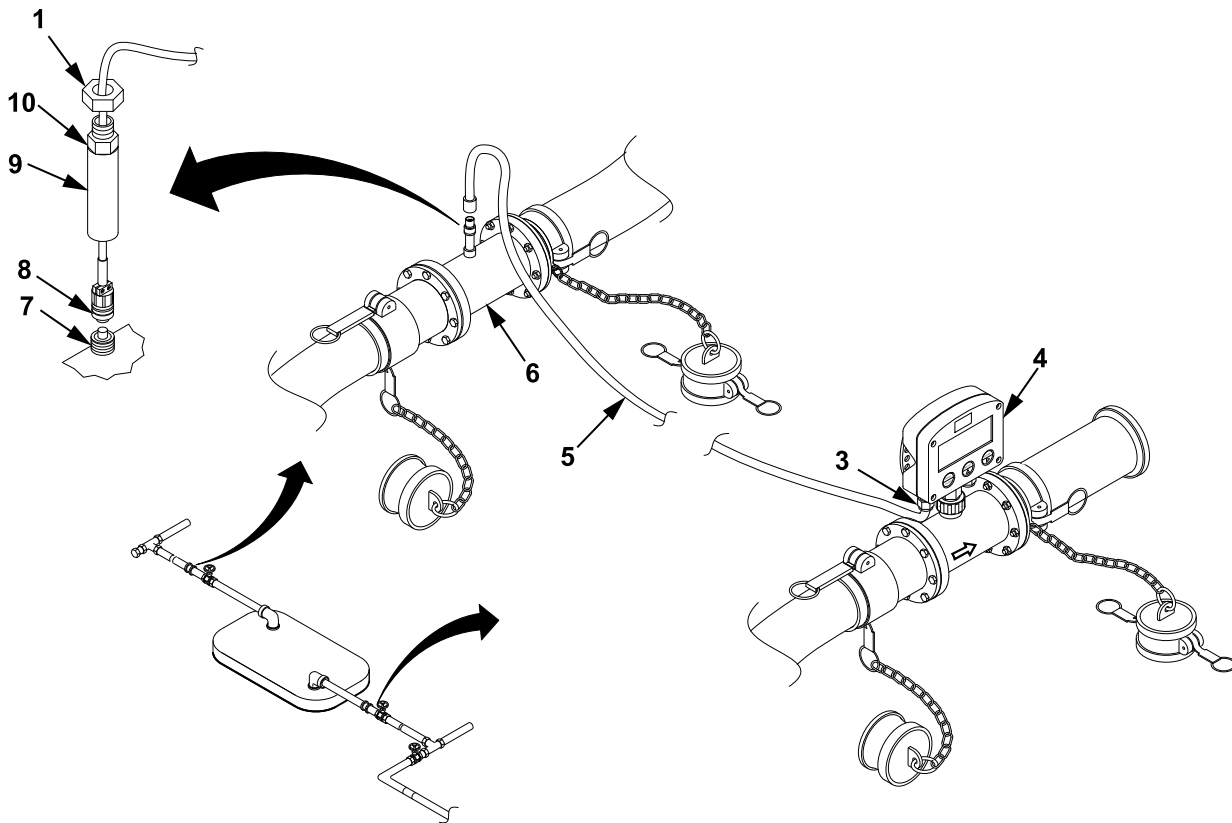

Figure 5. Installation of Tank Volume Meter Electrical Cable Assembly
30. Connect cable assembly (Figure 5, Item 5) to tank input volume meter assembly (Figure 5, Item 6).
- a. Connect the amphenol connector (Figure 5, Item 8) to the magnetic pickup (Figure 5, Item 7).
- b. Install weatherproof housing (Figure 5, Item 9) to the tank input volume meter (Figure 5, Item 6) by turning the weatherproof housing (Figure 5, Item 9) clockwise. Hand tighten weatherproof housing (Figure 5, Item 9).
- c. Connect dome connector (Figure 5, Item 10) to weatherproof housing (Figure 5, Item 9) by turning the nut (Figure 5, Item 1) clockwise. Tighten dome connector (Figure 5, Item 8).
- d. While holding connector (Figure 5, Item 8), connect tank volume meter monitor (Figure 5, Item 9) by turning clockwise. Tighten tank volume meter monitor (Figure 5, Item 9).